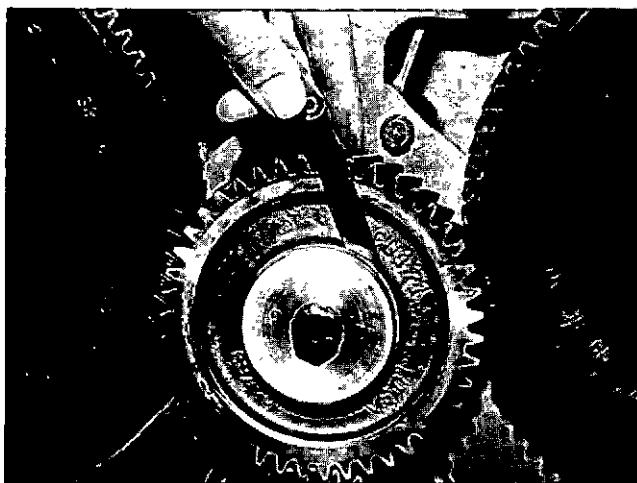

Fig. 14-1-32, V414134. Checking idler gear end thrust
7. Idler gear end thrust new is from 0.001 to 0.016 inch [0.0254 to 0.4064 mm]; worn limit is 0.020 inch [0.5080 mm]. Check clearance with feeler gauge. Fig. 14-1-32.